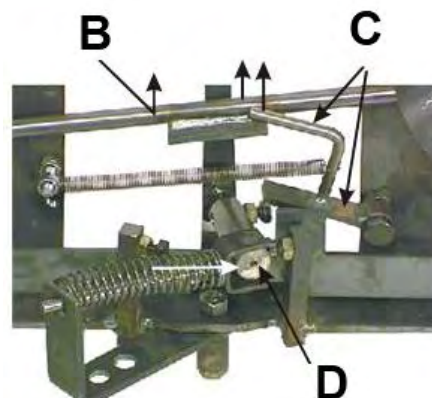

Figure 23. The triggering of the splitting mechanism
2. As the cutting blade rises from the bottom position, the trigger lever B lifts up the trigger rod C. Once the trigger rod C is up, the spring presses the jointed lever D to the right, thus enabling the splitting motion to begin. (Figure 23.)